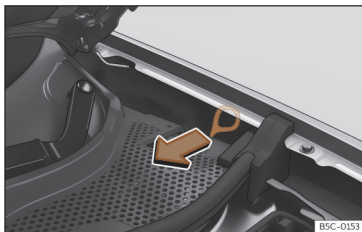

Fig. 197 Between the left wing panel and the engine bonnet hinge: Charging connector manual release mechanism puller.
The puller for the manual release mechanism is at the front left of the vehicle interior, above the charging socket»» **Fig. 197** .
- Pull the puller»» **Fig. 197** .